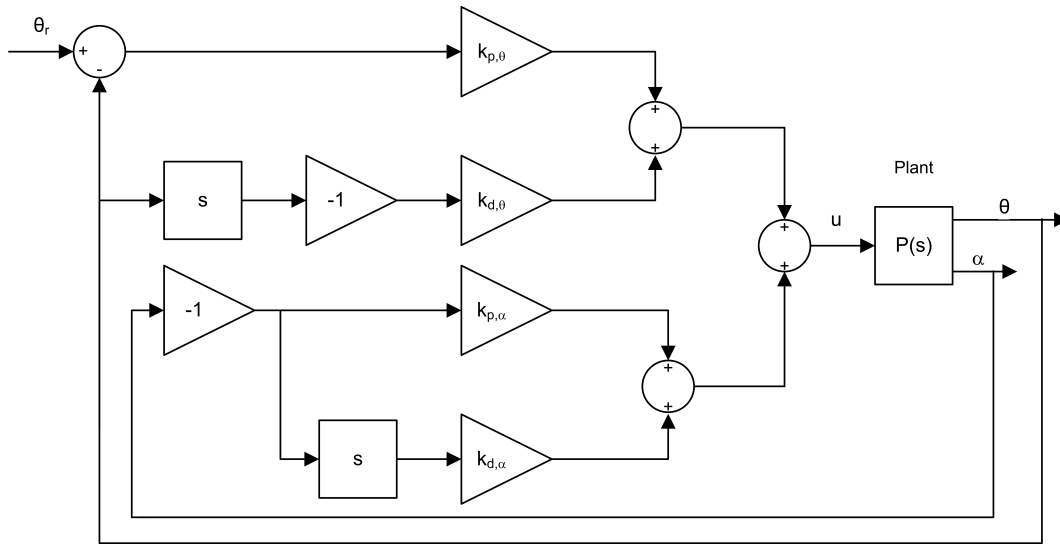

Figure 1.1: Block diagram of balance PD control for rotary pendulum
Balancing is a common control task. In this experiment we will find control strategies that balance the pendulum in the upright position while maintaining a desired position of the arm. When balancing the system, the pendulum angle  $\alpha$  is small and balancing can be accomplished with a simple PD controller, as shown in Figure 1.1. If we are further interested in keeping the arm in a desired position, a feedback loop from the arm position will also be introduced. The control law can then be expressed as
- Add the necessary Sum and Gain blocks to implement the PD control given in Equation 1.1 and illustrated in Figure 1.1.